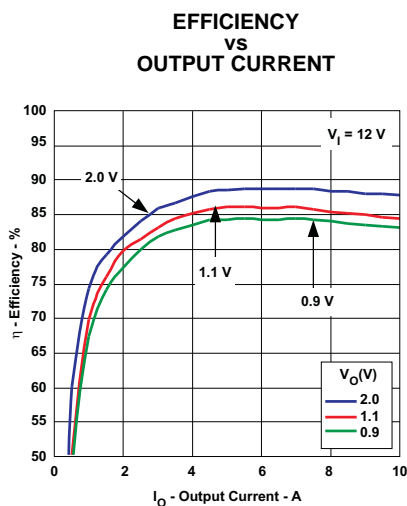
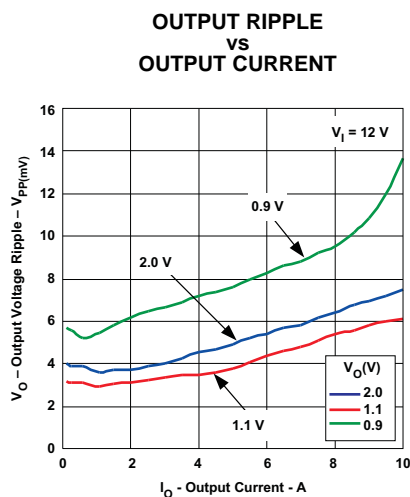
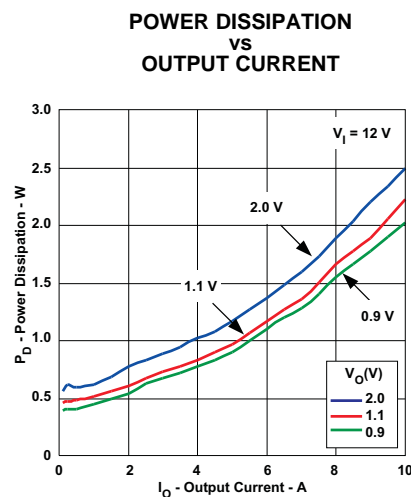
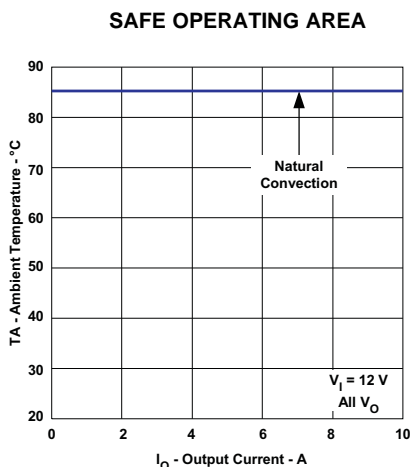

Figure 9.
Figure 10. See Note 2 below
Figure 11.
Figure 12.
- (1) The electrical characteristic data has been developed from actual products tested at 25°C. This data is considered typical for the converter. Applies to , Figure 9, Figure 11 and Figure 10.
- (2) Output ripple may increase up to 2x when operating at input voltages greater than ($V_O \times 11$). See the Smart Sync section of the datasheet for input voltage and frequency limitations.
- (3) The temperature derating curves represent the conditions at which internal components are at or below the manufacturer's maximum operating temperatures. Derating limits apply to modules soldered directly to a 100 mm x 100 mm double-sided PCB with 2 oz. copper. For surface mount packages (AS and AZ suffix), multiple vias must be utilized. Please refer to the mechanical specification for more information. Applies to Figure 12.